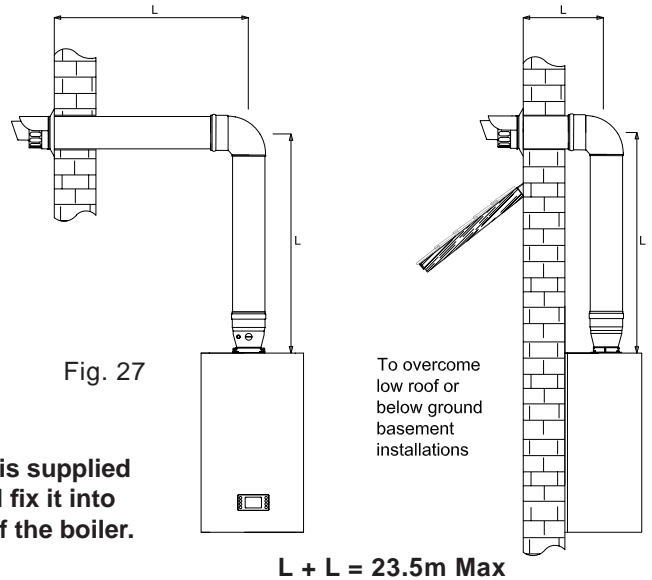

Fig. 27
The vertical 80/125 flue kit is intended for use where a horizontal 60/100 flue outlet is not possible or desired. The vertical flue can be installed on either a flat roof or a pitched roof (maximum pitch 60°). Where a straight vertical flue is not possible or desired, an offset vertical flue can be used in conjunction with a side horizontal flue extension piece and an inline 135°/90° flue bend (fig. 27).
**NOTE :** If using Flue arrangement in fig. 27 then the 125x100 Flue reducer must be purchased separately.